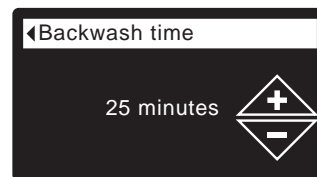

FIG. 76
- 8c. **Backwash time:** Press the UP (▲) or DOWN (▼) buttons to change the backwash time. Hold the button down to rapidly advance. The backwash time can be set from 1 to 99 minutes* (See Figure 76).